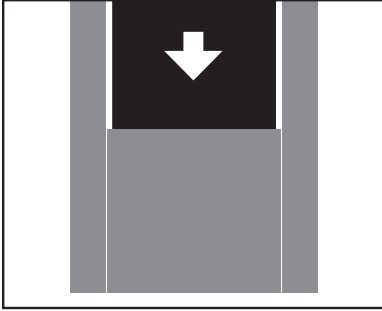

Fig. 24
8. Feed flexible seal through slot in lifting body (Fig. 24).